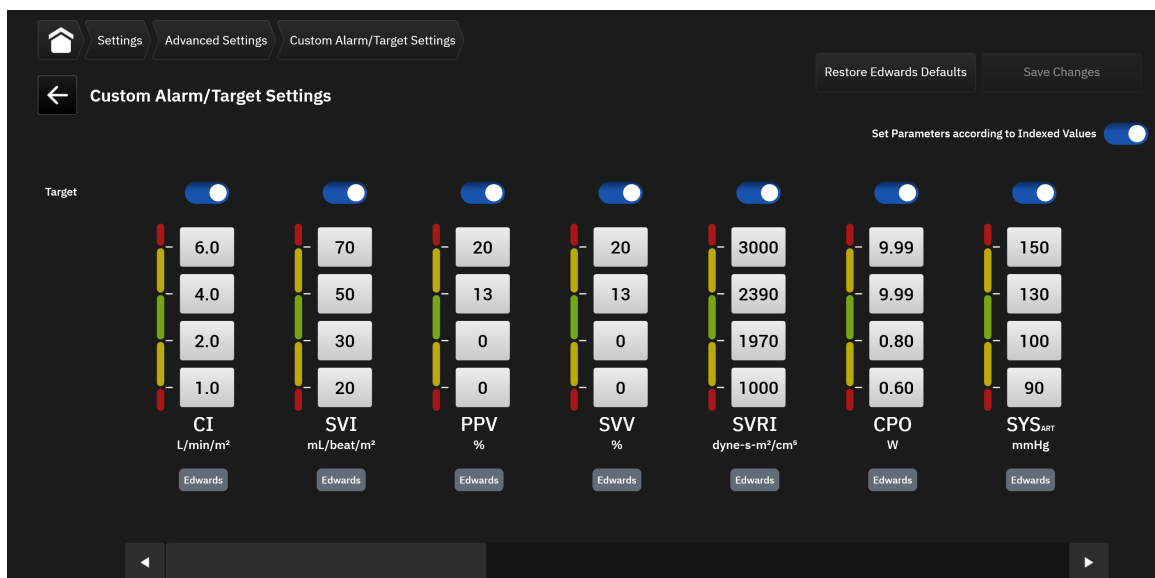

Figure 6-1: Custom Alarm/Target Settings screen
3. Use the toggle button to switch on **"Set Parameters according to Indexed Values"**. This will display all parameters and alarm/target values to their indexed values, if applicable. See Figure 6-1 on page 143.